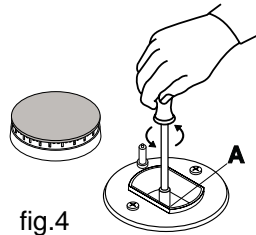

fig.4
- Unscrew the nozzles "A" (fig.4) using a 7 mm socket wrench and replace them with the ones which have a diameter suitable for the type of gas to be used, according to the table 1 "burners and nozzles specifications).